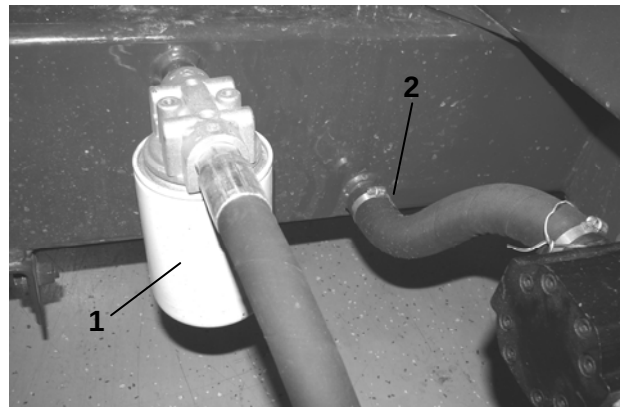

Figure 20
2. Remove the hydraulic filter and clean the mounting flange (Figure 20).
1. Disconnect the suction hose from the bottom of the reservoir tank. Next to the hydraulic filter (Figure 20).